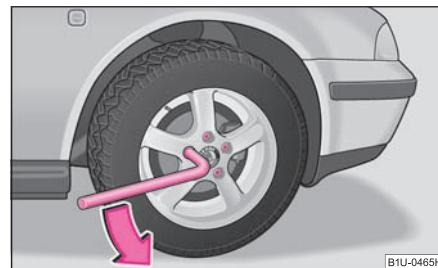

Fig. 163 Changing a wheel:
- Grasp the end of the wrench* and turn the bolt about **one** turn to the left ⇒ fig. 163.